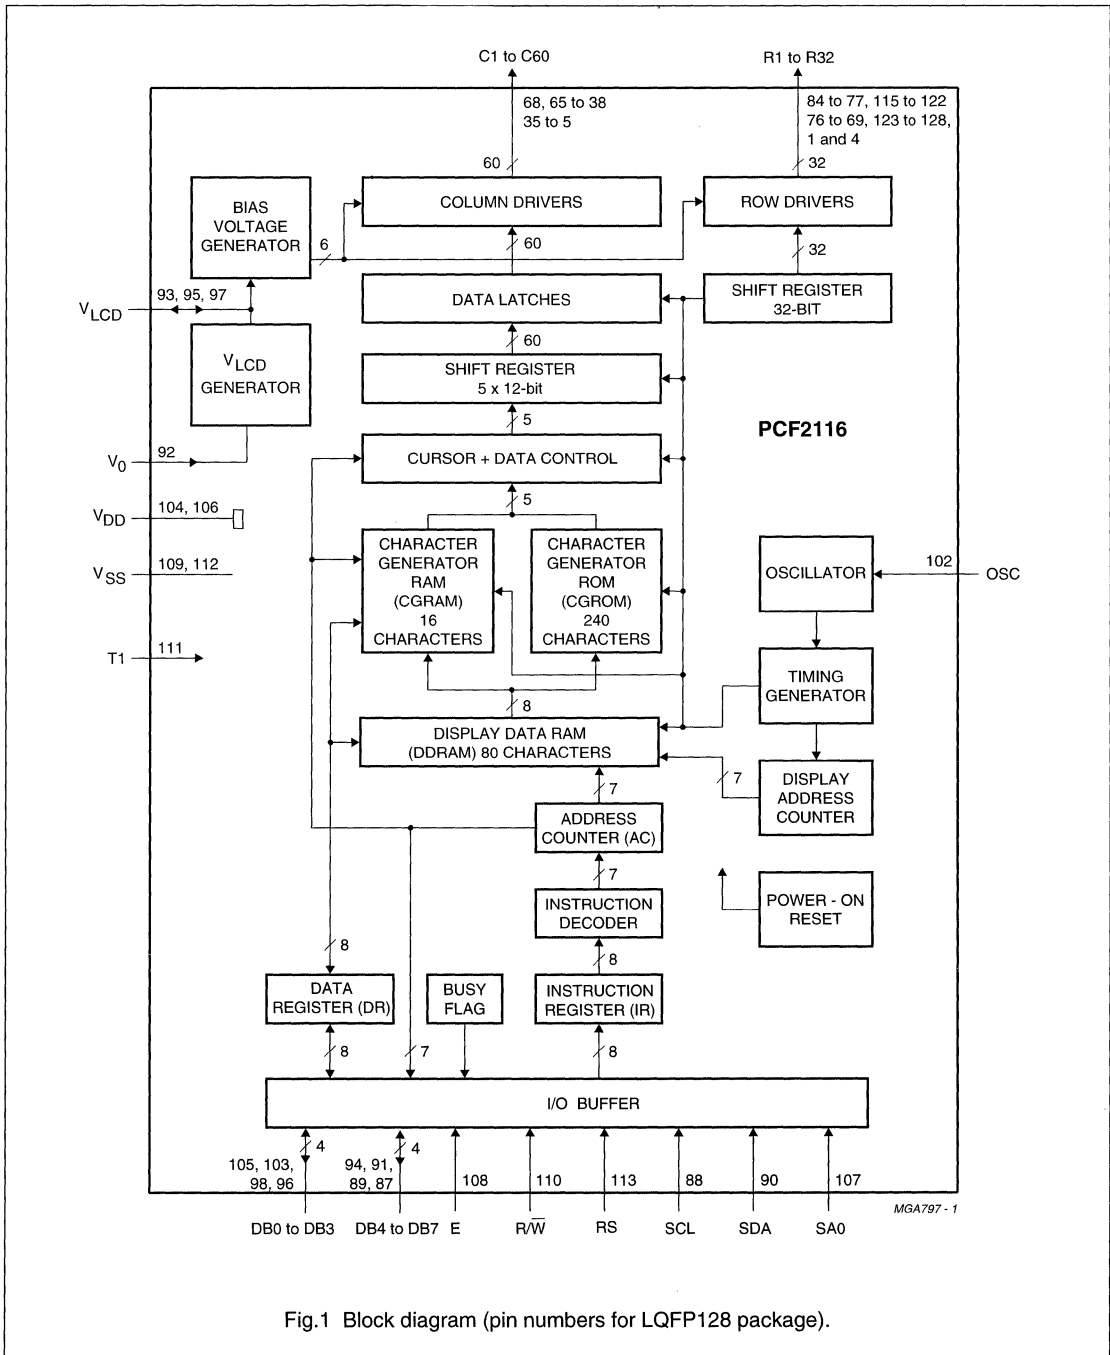

Fig.1 Block diagram (pin numbers for LQFP128 package).
**8 FUNCTIONAL DESCRIPTION (see Fig.1)****8.1 LCD supply voltage generator, PCF2114x and PCF2116x**